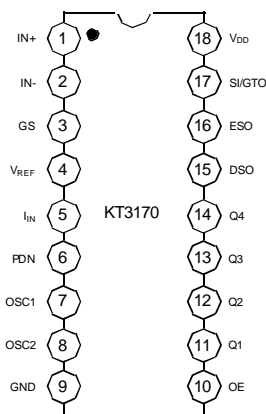

Fig. 1
12. Referenced to Fig. 1 Input DTMF tone level at -28dBm.